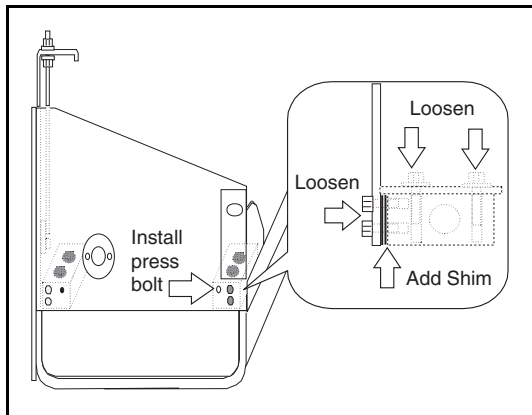

Figure 3 - 22 Shim Tipping Frame
5. Tighten the keeper bolts and remove press bolt (Figure 3 - 22).